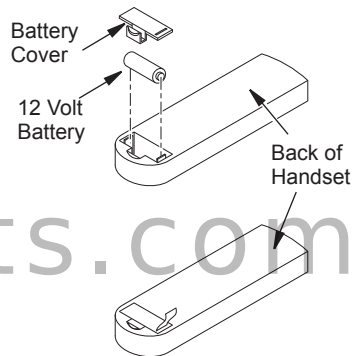

Figure 47 - Installing Battery Into Handset WRC
3. Activate remote handset battery by removing insulating tab on back of handset (see Figure 47). Battery is included pre-installed.